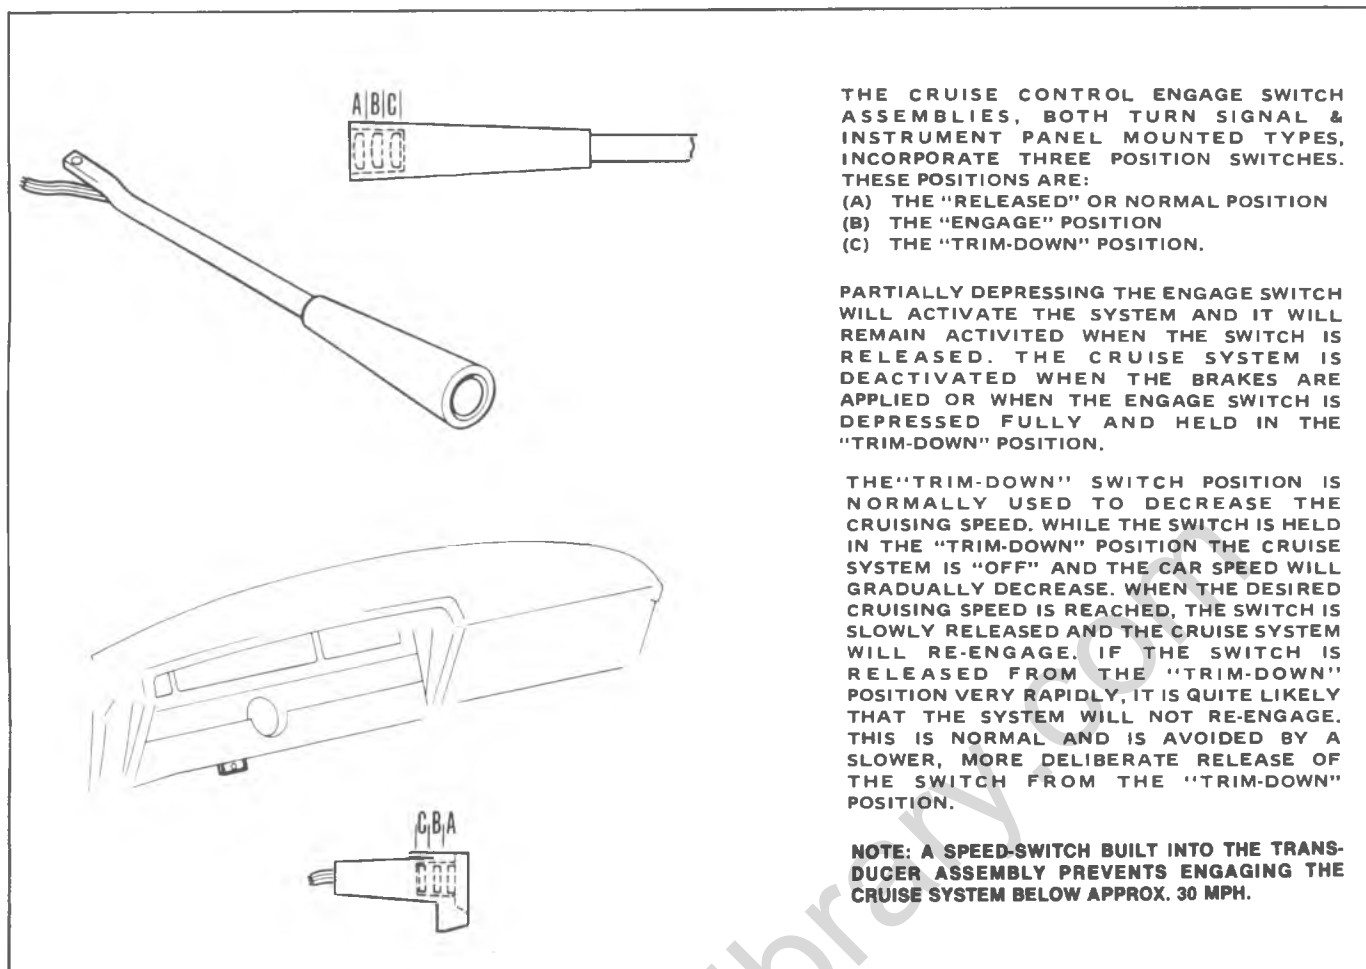

Fig. 9-1C--Cruise Master Engagement Switches
3. When released slowly from the fully depressed position, it will engage the system at the existing speed and cruise at that speed (above 30 mph or 50 km/h). See Fig. 9-1C "Engage Switch Operation".